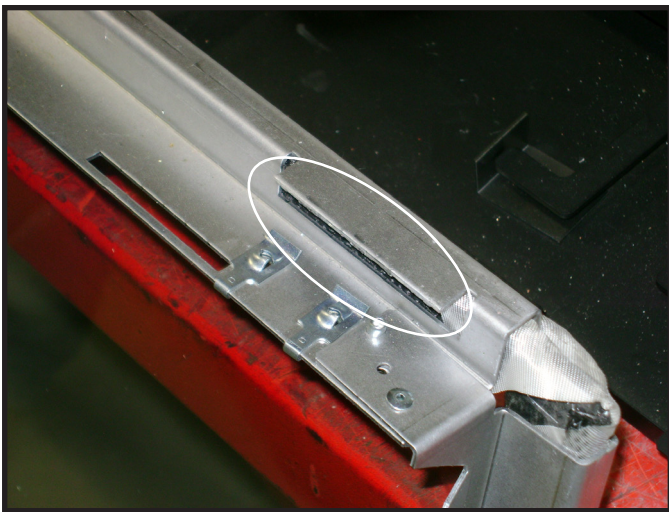

Figure 11.1 Glass Top Tab Detail.
1. Identify the top and bottom of the glass assembly. The top of the glass frame has three engagement grooves. The engagement groove is highlighted in Figure 11.1.